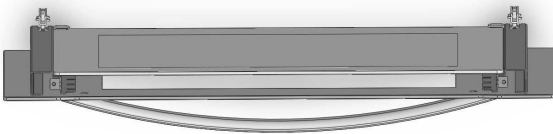

Fig. 6.6
2. Make a solution of water (85%), white vinegar (10%) and dish washing detergent (5%) and spray liberally on to the door, side walls and back wall of oven cavity (Fig. 6.6).